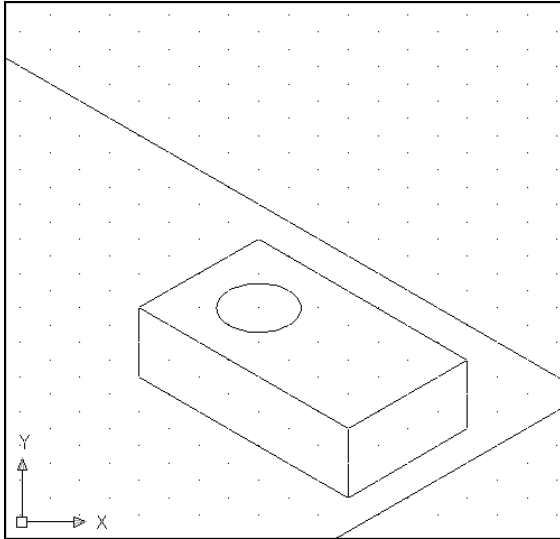

**Figure 8-23:** The completed iron plate with a hole in it, drawn isometrically.
- 13.** Choose Ellipse from the Draw toolbar. Right-click and choose Isocircle from the shortcut menu. At the Specify center of isocircle: prompt, choose 5.1962,3. At the Specify radius of isocircle or [Diameter]: prompt, type .5 ↵ to draw the ellipse. Your drawing should look like Figure 8-23.